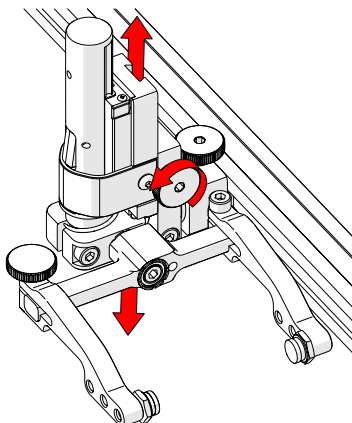

Fig. 122 - Vertical adjustment
2. The vertical adjustment knob allows the vertical probe holder height adjustment (*Fig. 122*).